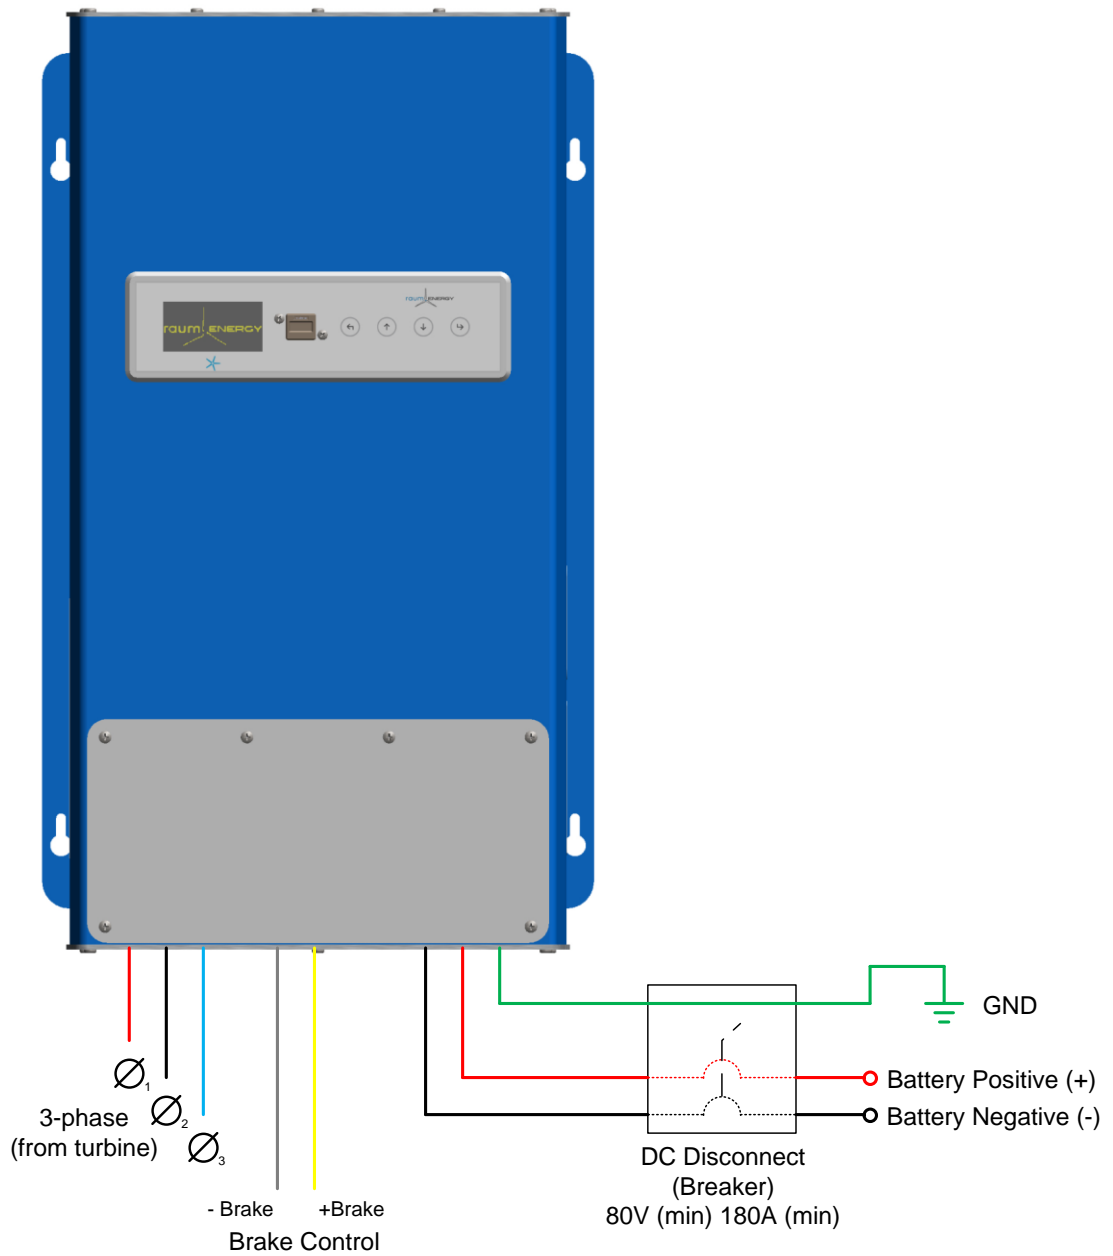
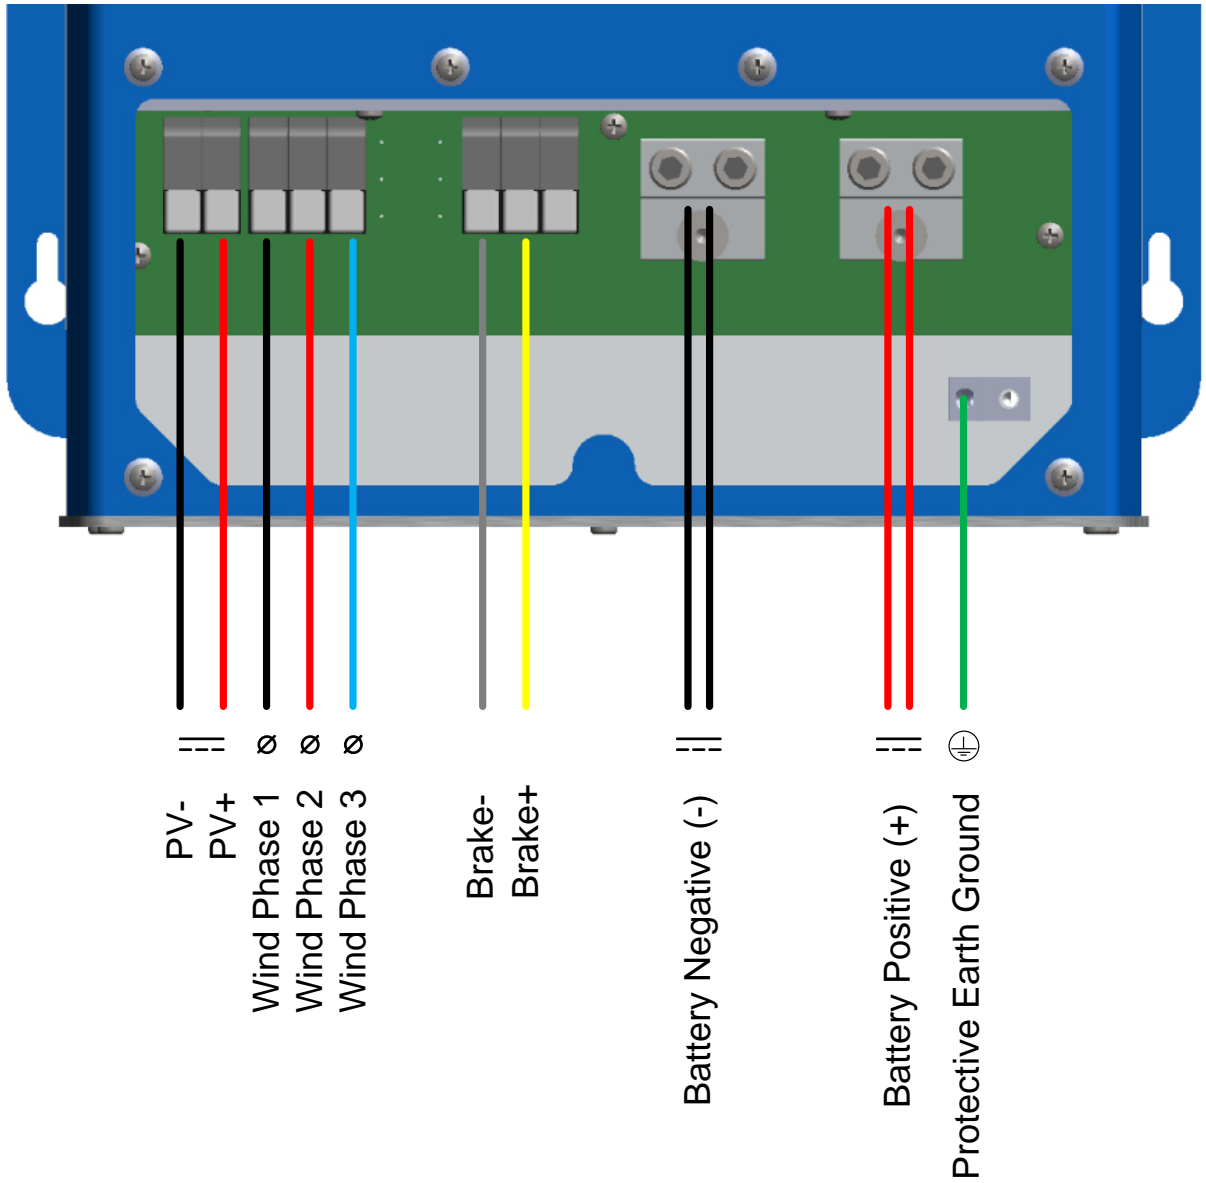

Figure 6 – Wiring setup of the Raum4000b system
Figure 7 - Connection details for the Raum4000b. Important: Wind and PV are not permitted at the same time.
1. The basic connection requirements of a typical Raum4000b installation are shown in Figure 6. Other details such as the placement of a net meter and additional disconnects are not shown.
2. Wire connections are to be completed as instructed by Figure 6 and Figure 7. Strip the 3-phase wires from the generator, the generator brake wires and the grid AC wires back 12-13 mm (1/2 inch), and feed these wires through the left side port on the underside of the Raum4000b battery charger. Similarly, the battery cables (both positive and negative) will need to be stripped back 12-13 mm (1/2 inch) and fed through the right side port on the underside of the Raum4000b battery charger.